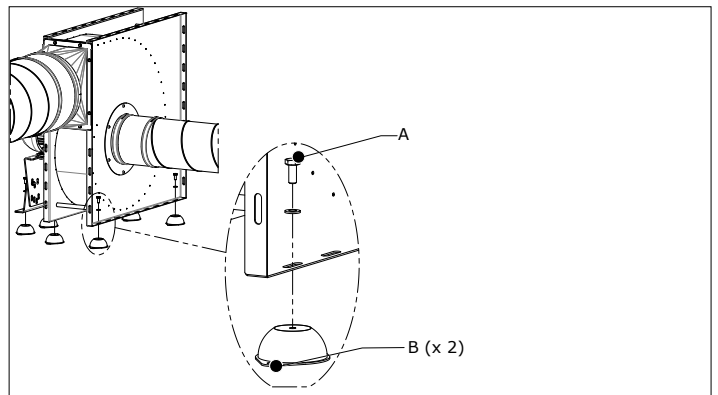

Fig. 4.1 Installing vibration isolators and securing the fan
- hardware (see Fig. 4.1)
To install the vibration isolators and secure the fan to the floor or platform (see Fig. 4.1):